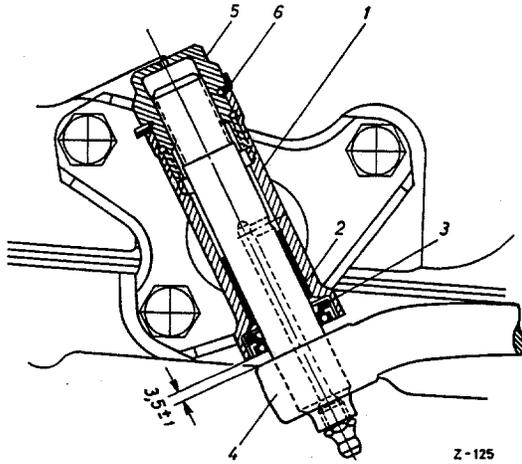

Fig. L 11/1
2. Unscrew the three hexagon screws and lock washers from the pivot bearing and take the pivot bearing with the steering relay arm off the front axle support (Fig. L 11/1).
3. Tap up the locking plate (6) of the cover plate (5) and screw out the cover plate.
4. Then pull the steering relay arm (4) out of the pivot bearing (1).
9. Insert the steering relay arm (4) in the pivot bearing (1) and screw on the cover plate (5) (use a new locking plate), so that in the straight-ahead position a distance of 3.5 ± 1 mm remains between the steering relay arm and the pivot bearing (Fig. L 11/1).
11. Once again check the height adjustment of the steering relay arm. When the adjustment is correct, tighten up the cover plate (5) and tap over the locking plate (6) (see Fig. L 11/1).